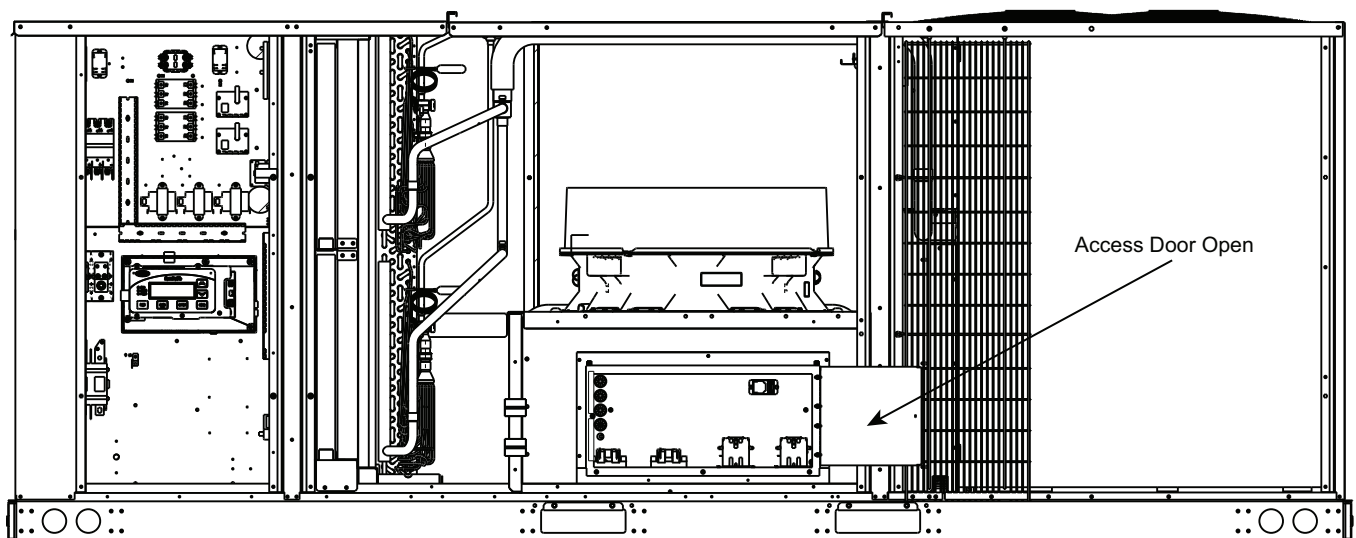

Fig. 42 — Electric Heater Accessory In Place (Shown with Access Door Open)
5. Slide heaters until completely installed such that heater controls are completely in the unit. Using screws saved from Step 3, secure heater assembly. (See Fig. 42.)